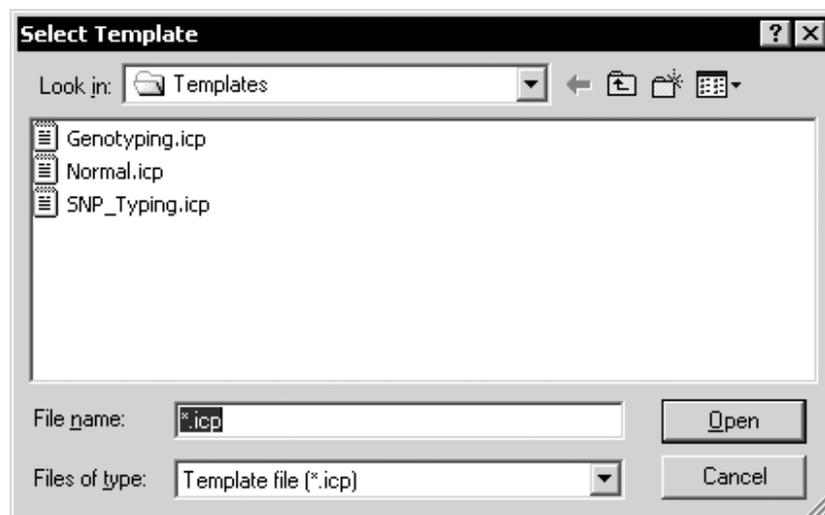

Figure 4-9. The Select Template window displaying the available instrument control templates.
8. On the **Templates** menu, point to **Instrument Templates**, and click **Select Template**. The Select Template window appears (figure 4-9) and displays the available instrument control templates.